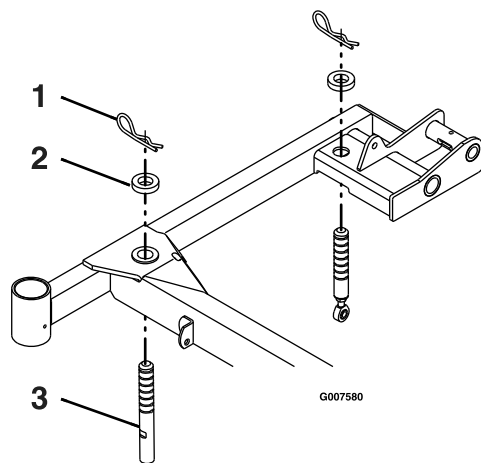

Figure 69
3. Verify all hairpin cotters are in the 7.62 cm (3 inch) mower deck height holes with the spacers under the hairpin cotters (Figure 69).
4. Shorten or lengthen each mower deck support pin to obtain blade tip height of 7.62 cm (3 inches) at the front of the deck and 8.26 cm (3 1/4 inches) at the rear of the deck (Figure 69).